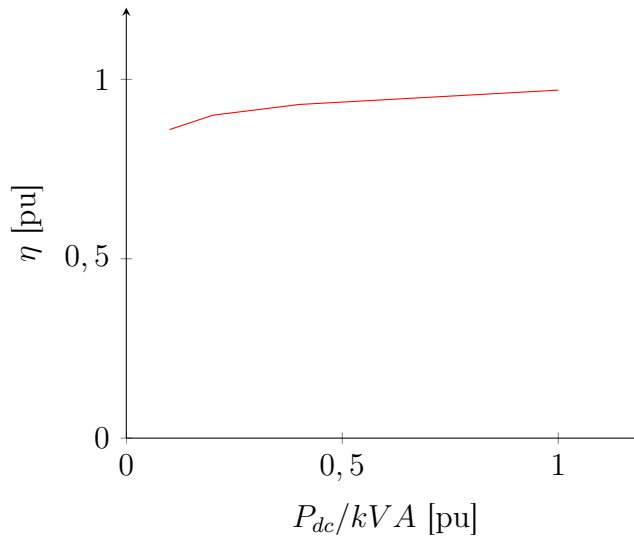

Figure 3: Inverter efficiency curve
- *EffCurve*: Inverter efficiency curve. This curve characterizes the variation of the inverter efficiency as a function of the power from PV array,  $P_{dc}$ , in per unit of inverter's kVA rating, as can be seen in the Figure 3. For each DC bus voltage, there is an efficiency curve of the inverter,